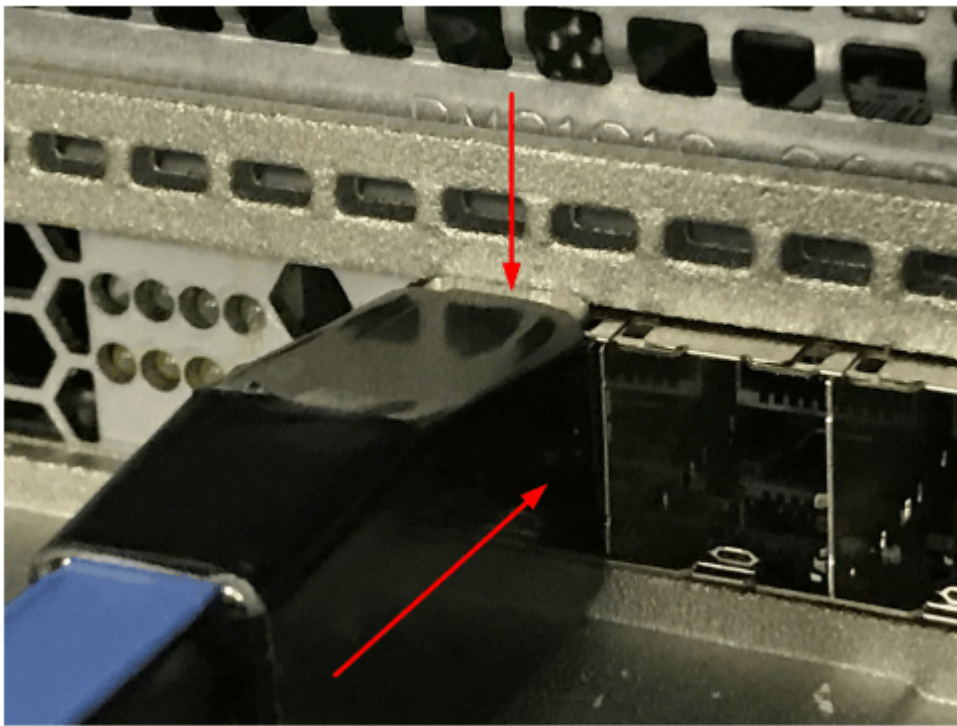

Figure 62. Pushing the SAS cable latch closed
- Insert the connector gently until it clicks into place. If you feel resistance, the connector is probably oriented the wrong way. Do not force it. See Figure 62 on page 95.